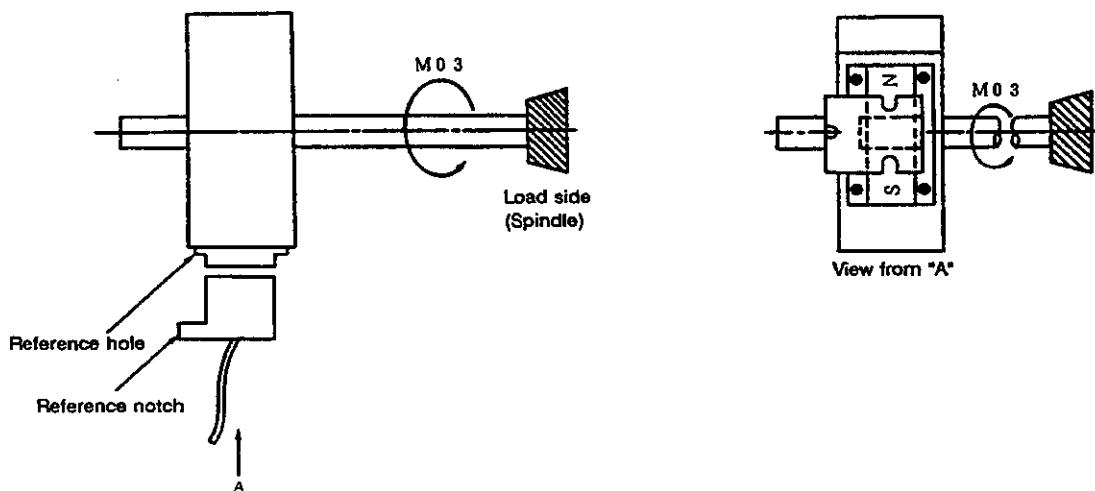
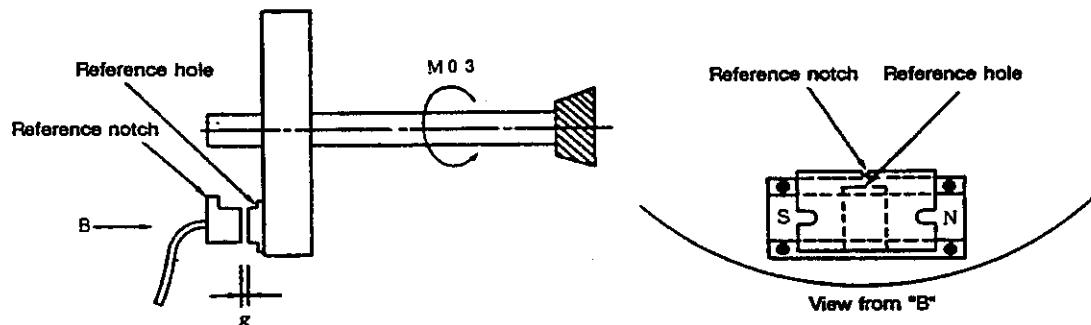

Fig. 7-1 Magnet installed on circumferential surface of rotating disk on shaft
Fig. 7-3
For miniature magnet and ring type magnet, N and S should be positioned as shown in Fig. 7-1 and 7-3.
- (3) Gap between the magnet and the sensor head should be as indicated in Table 7-1 for **CASE 1** (Fig. 7-1), and as indicated in Table 7-2 for **CASE 2** (Fig. 7-3).